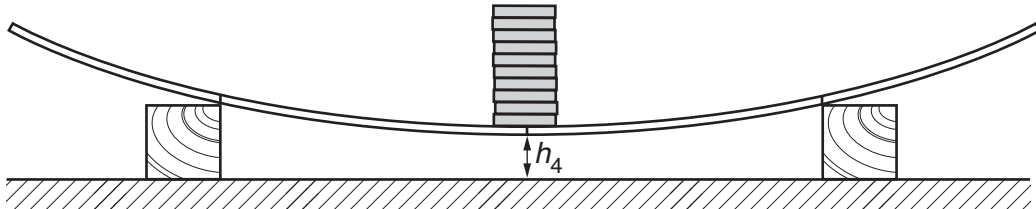

Fig. 2.5
- (iii) Place all the masses at the centre line, as shown in Fig. 2.5.